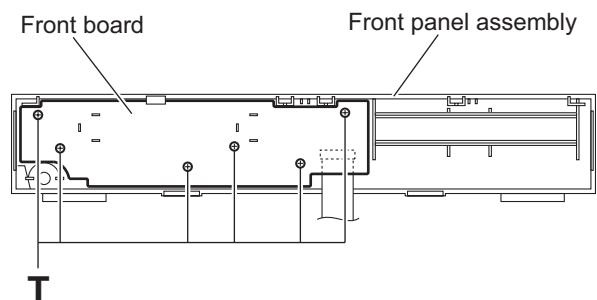

Fig.19
- (2) From the inside of the front panel assembly, remove the six screws **T** attaching the front board. (See Fig.19.)
- (3) Take out the front board from the front panel assembly.